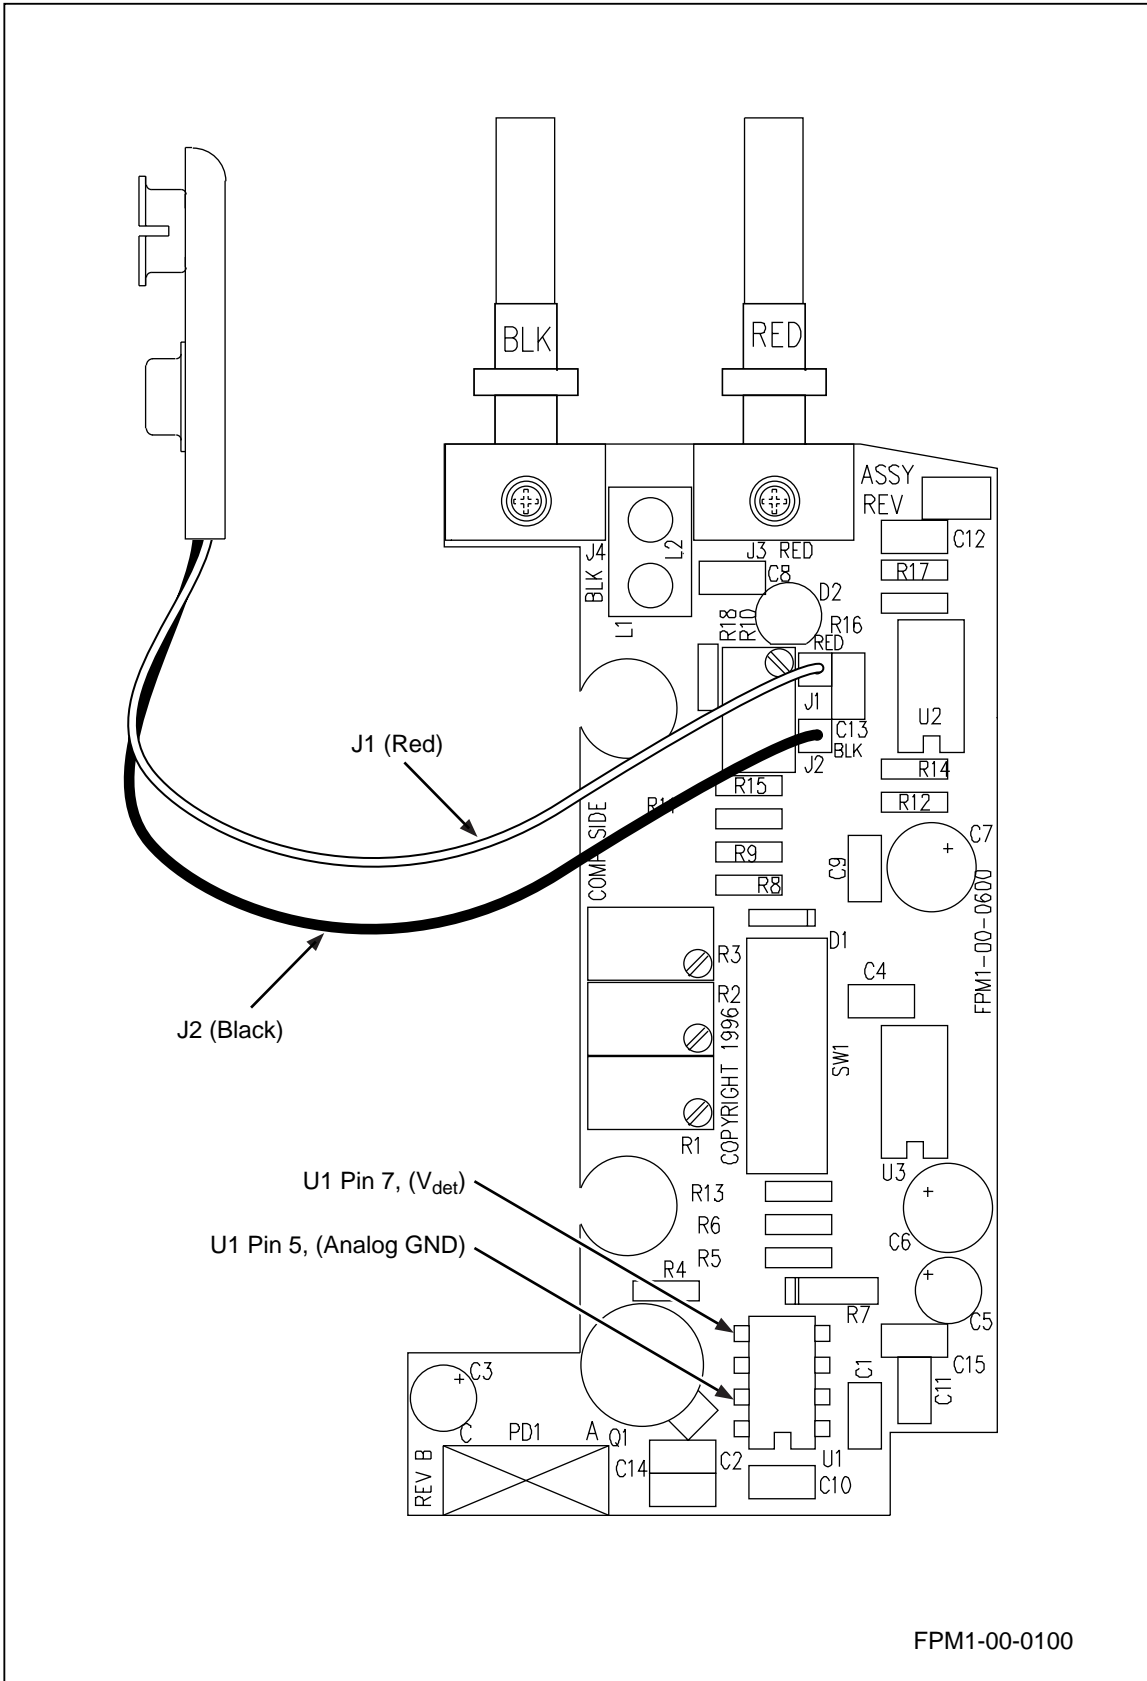

Figure 1. FOM Calibration Measurement and Adjustment Points
Refer to the FOM drawing (Figure 1) for the locations of measurements and components.
3. Measure V_{det} between U1 pin 7 and the analog ground reference at U1 pin 5 with the DMM. (See Figure 1.)